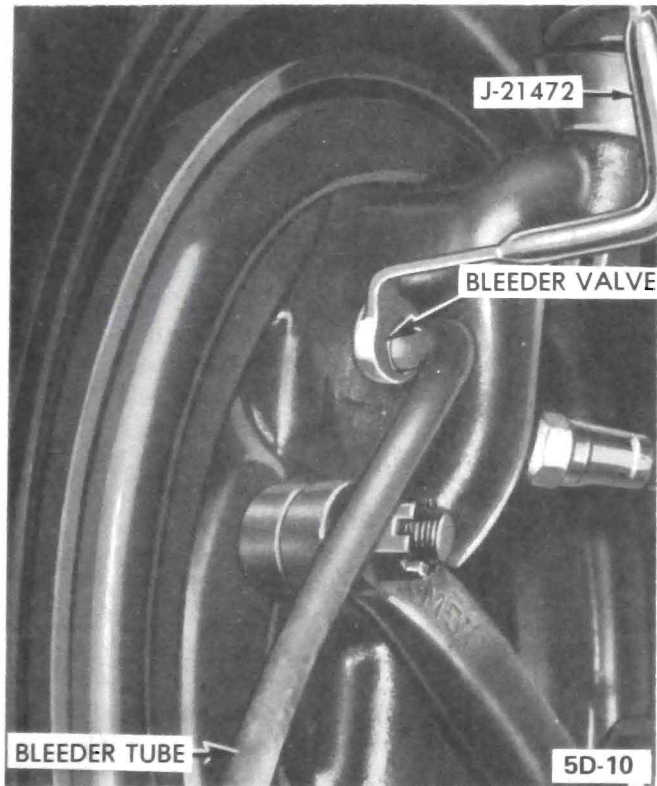

Figure 5D-10 Bleeding Wheel Cylinder
2. With the proper size Box End wrench or tool J-21472 over bleeder valve, attach bleeder tube to valve and allow tube to hang submerged in brake fluid in a clean glass jar. See Figure 5D-10.